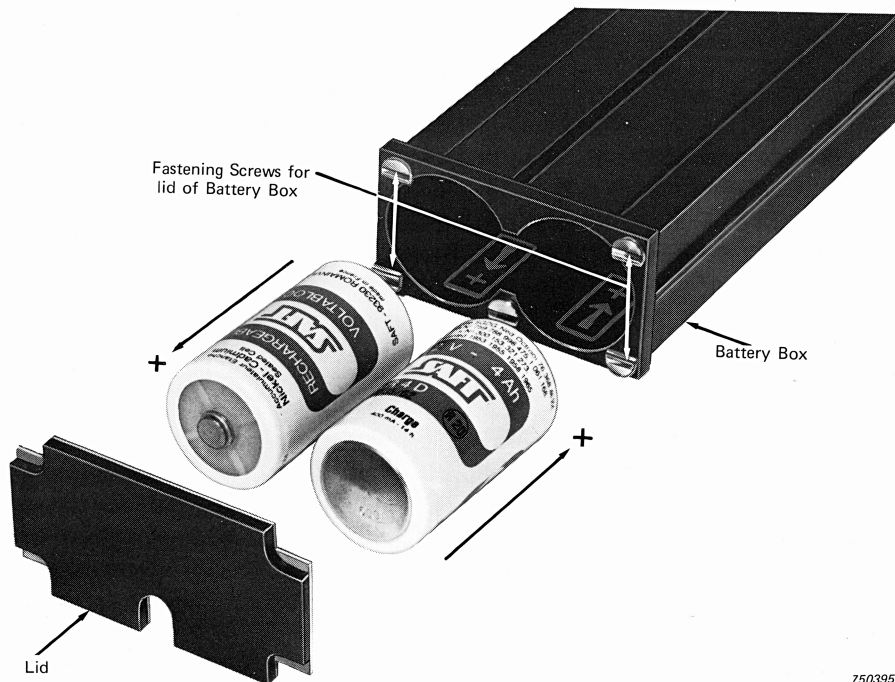

Fig.3.3. Fitting cells into Battery Box
1. Using a screwdriver or a coin, turn the four fastening screw heads through 180° and remove the lid, as shown in Fig.3.3.
3. Load six new cells (QB 0004 or QB 0008) into the Battery Box as shown in Fig.3.3. Care should be taken to ensure that the positive pole of each cell (the stud on its casing) faces the direction indicated in each of the two compartments of the box.